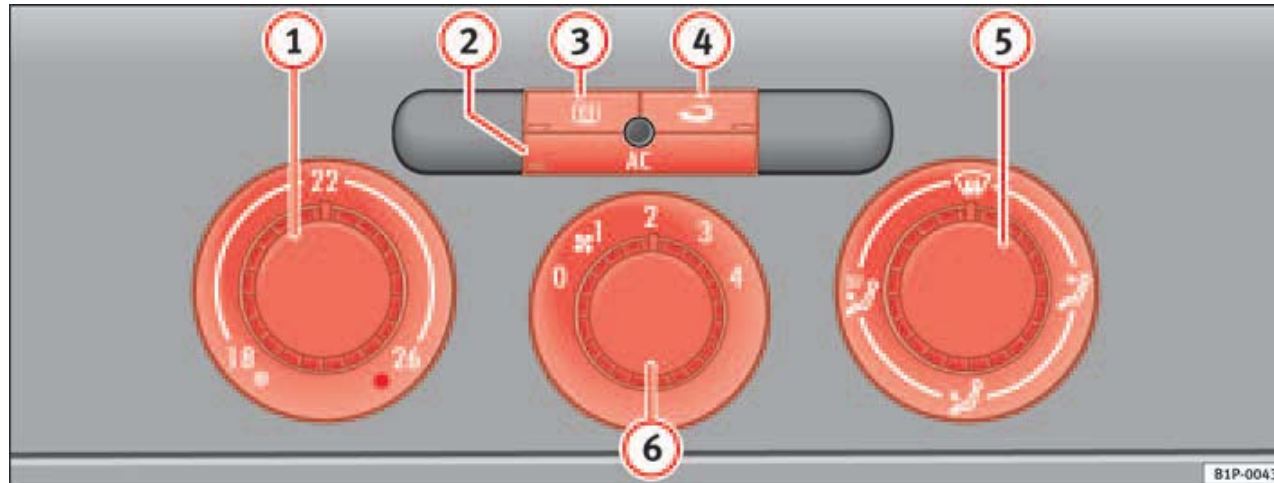

Fig. 107 On the dash panel: Climatic controls
- Using the controls ⇒ fig. 107 ① and ⑤ and the control ⑥ you can set the temperature, air distribution and the airflow.
- To switch a function on or off, press the appropriate button ②, ③ or ④. When the function is activated, the display window in the lower corner of the button is lit.
- ① Temperature selector ⇒ page 143
- ② Button  – Heating, ventilation and air-conditioning system on/off ⇒ page 143
- ③ Button  – Rear window heating. The heating will be switched off automatically approximately *20 minutes* after switching on. It can also be switched off beforehand by pushing the button.
- ④ Button  – Air recirculation mode ⇒ page 144
- ⑤ Air distribution control ⇒ page 143
- ⑥ Blower switch. There are four speed settings for the airflow. The airflow should always be set at the lowest speed when driving slowly.
- Switch on the air conditioner using the button ⇒ page 142, fig. 107 .